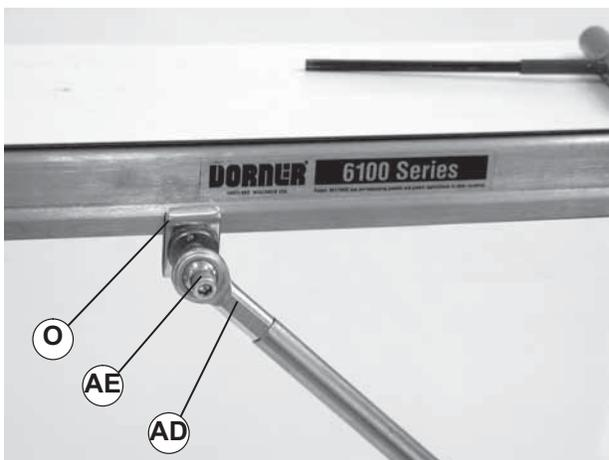

Figure 10
- b. Attach the diagonal brace end (Figure 10, item AD) to the mounting clip (O) with socket screw (AE).
- c. Tighten screw (Figure 10, item AE) to 100 in-lb (11 N-m).